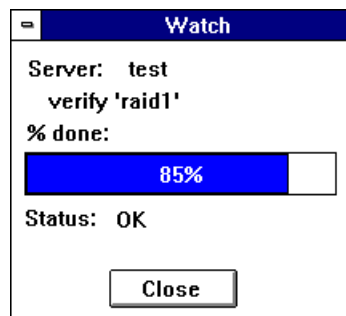

Figure 11-3. Watch Window
- 3 Click the **Watch** button. A small Watch window for this activity appears, as shown in Figure 11-3. Each window has a percent complete graph and a Status field (OK, Done, Failed). If a Verify operation is running, there is also a field listing the number of mismatches found. Click **Close** to close the Watch window after the activity has completed.